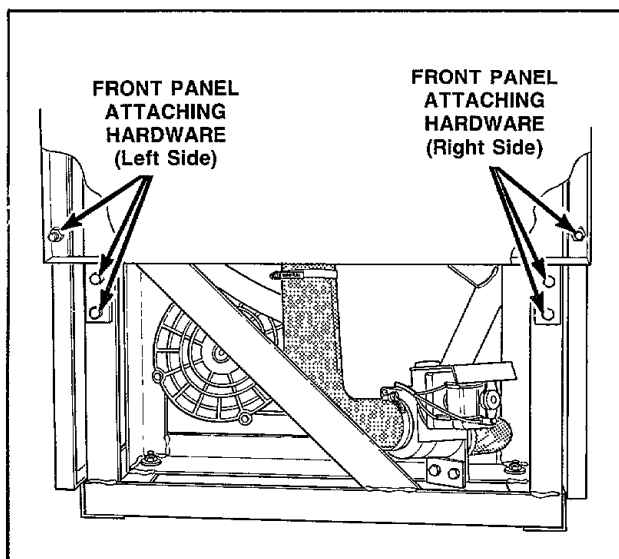

Figure 12
- h. Remove the screw, washer and lockwasher from inside the lower front corner holding the front panel to the side panel, *Figure 12*.